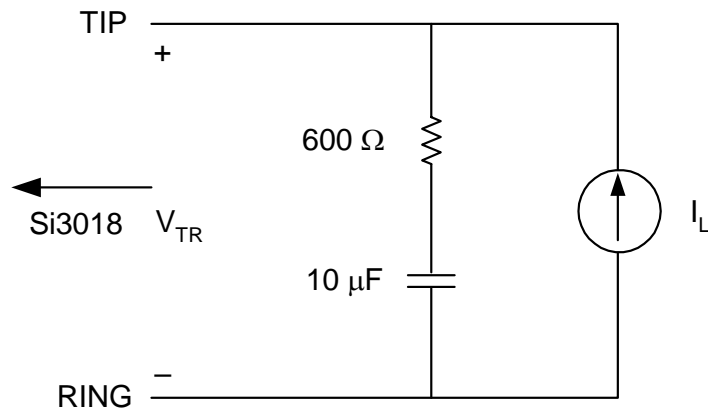

Figure 1. Test Circuit for Loop Characteristics
($V_D = 3.0$ to 3.6 V, $T_A = 0$ to 70 °C for K-Grade, see Figure 1)
- Measured at TIP and RING with 600 Ω termination at 1 kHz, as shown in Figure 1.
2. Measured at TIP and RING with $600\ \Omega$ termination at 1 kHz, as shown in Figure 1.